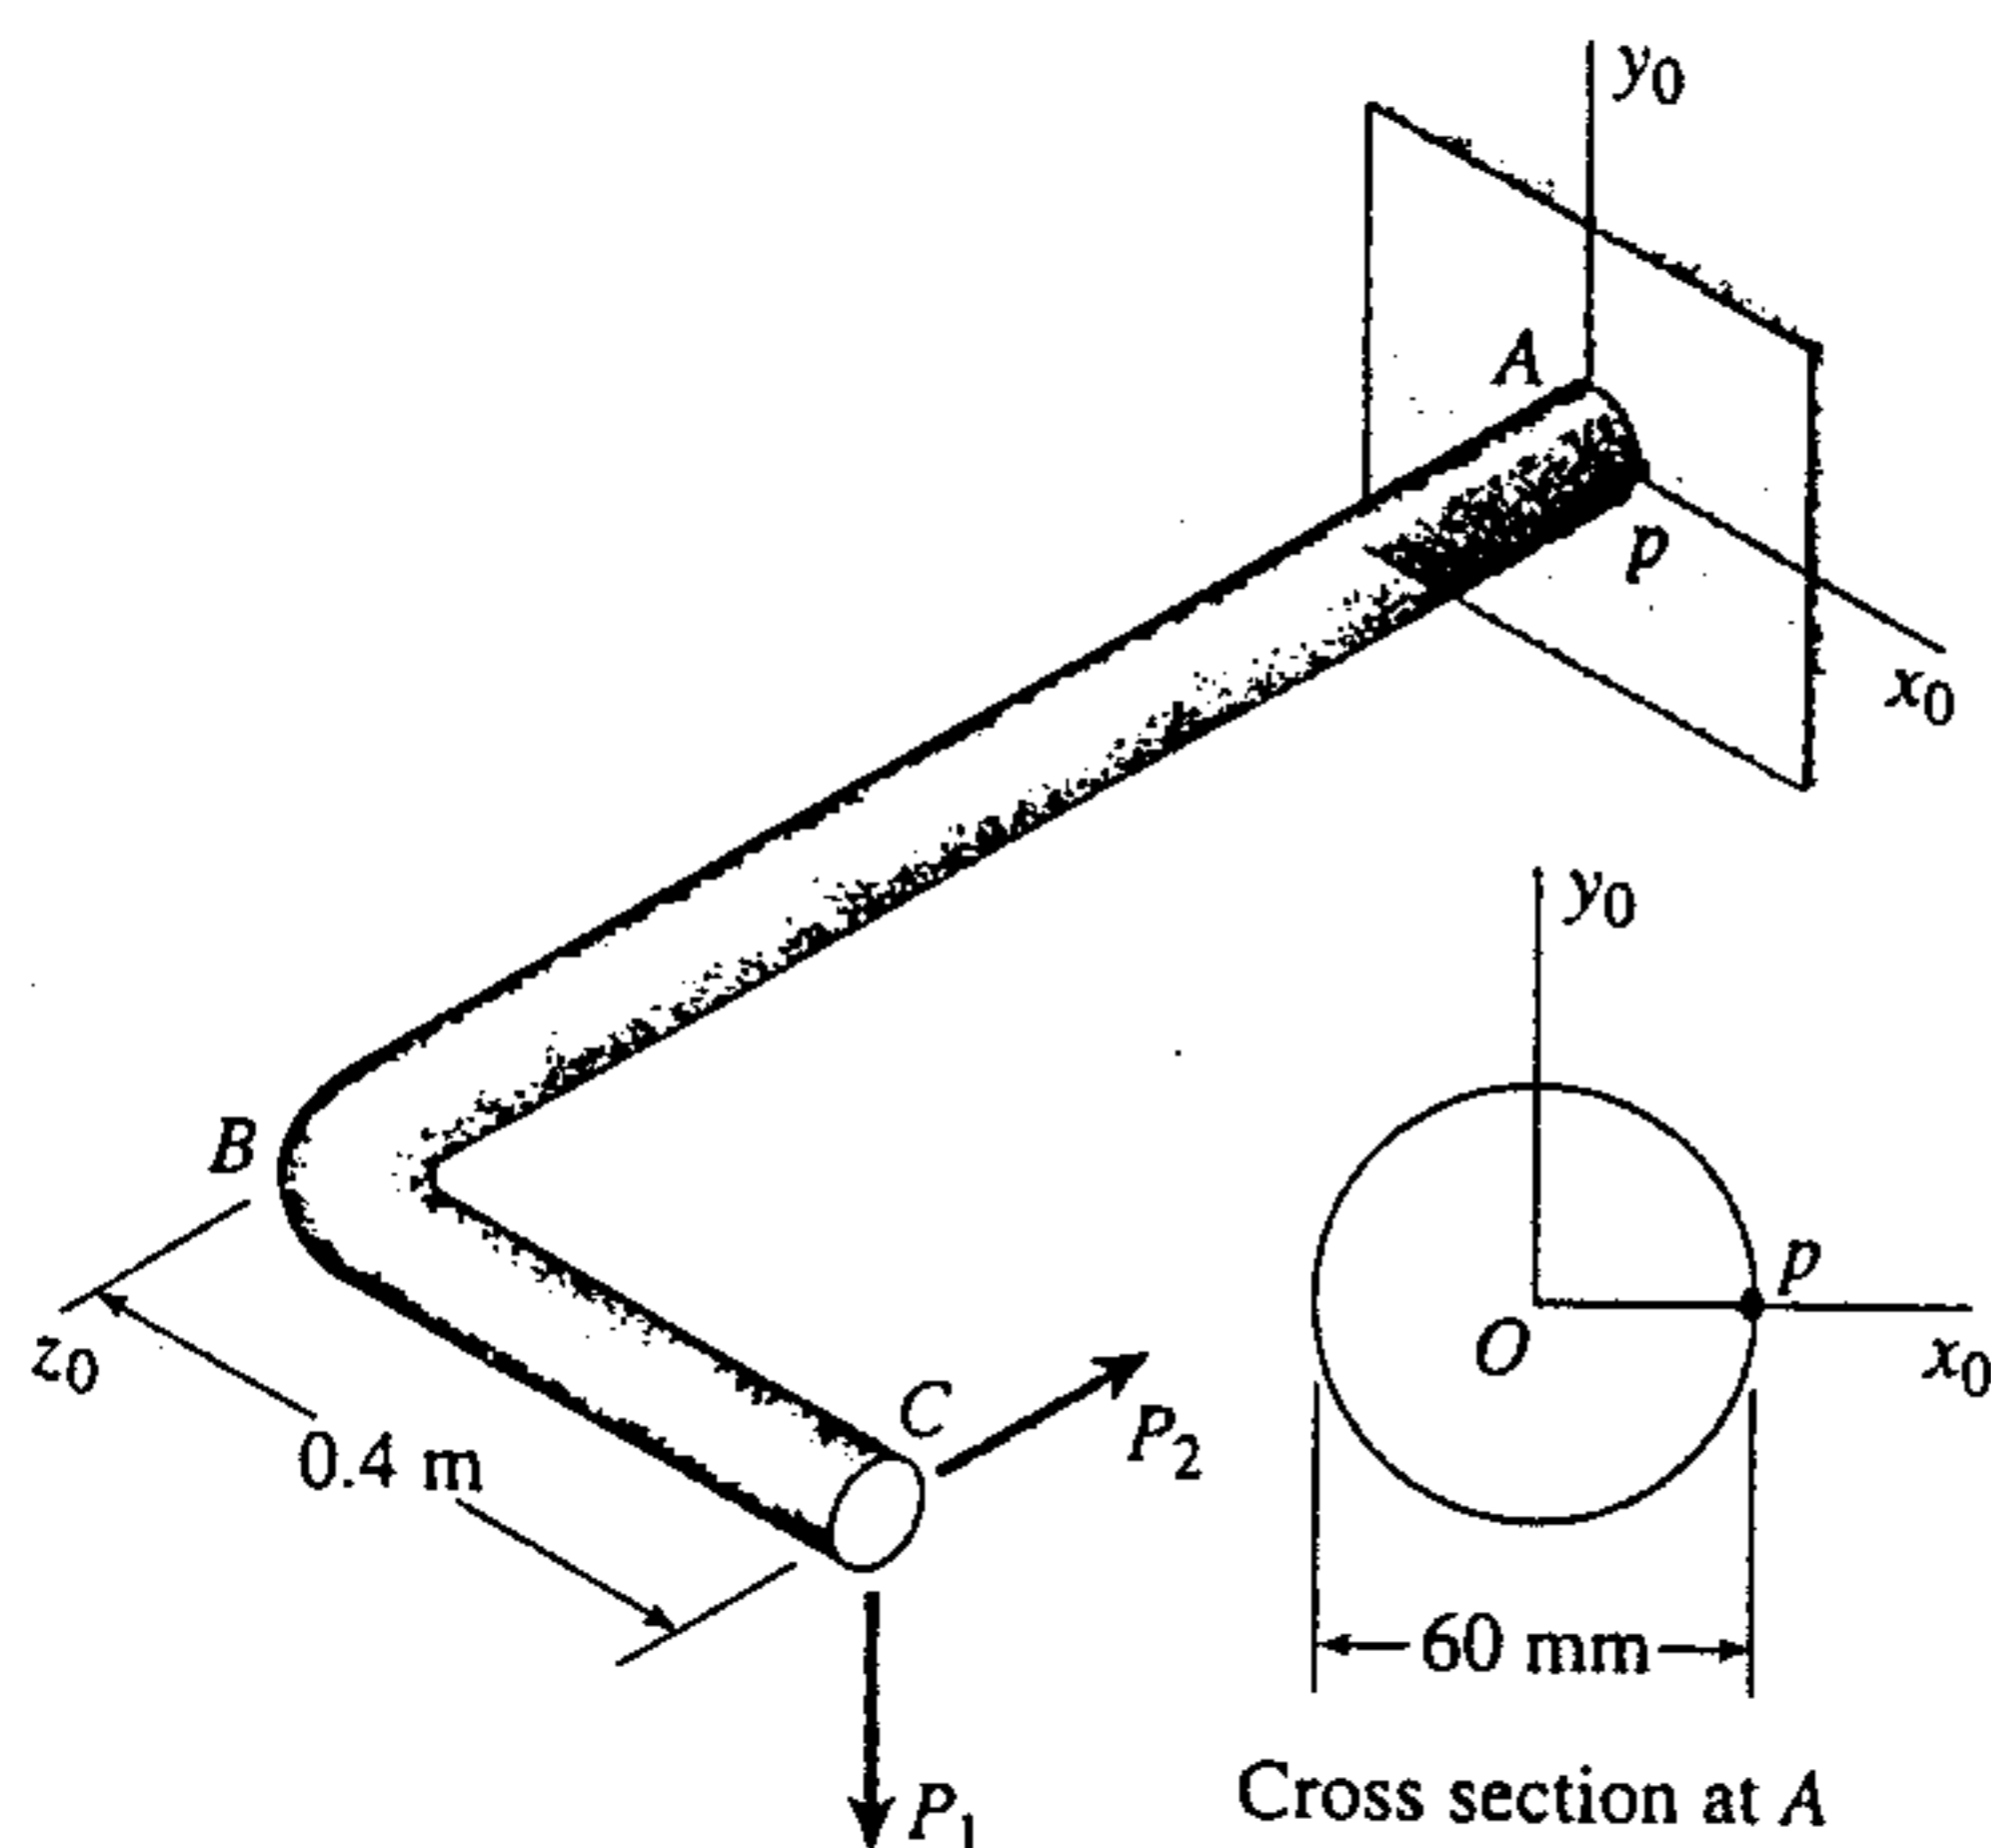

Fig. 3
3. A horizontal bracket ABC shown in Figure 3 consists of two perpendicular arms AB and BC, the latter having a length of 0.4 m. Arm AB has a solid circular cross section with diameter equal to 60 mm. At point C a load  $P_1 = 2$  kN acts vertically and a load  $P_2 = 3$  kN acts horizontally and parallel to arm AB. Considering only the forces  $P_1$  and  $P_2$ , calculate the maximum tensile stress  $\sigma_t$ , the maximum compressive stress  $\sigma_c$  and the maximum in-plane shear stress  $\tau_{max}$  at point p, which is located at support A on the side of the bracket at midheight. (25%)